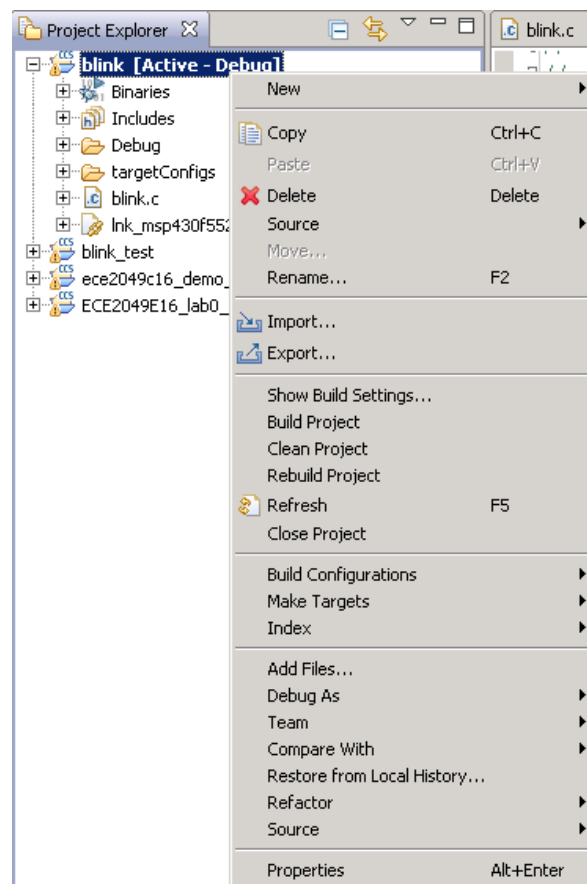

Figure 4: Project configuration menu
11. Now we need to add our .c file to the project. Right-click on the name of your project to open the context menu shown in Figure 4. This is a very useful menu—it contains functionality for performing operations specific to your project. To add blink.c, select **Add Files** from the menu and browse to the file you downloaded. When prompted, select “Copy Files” to copy the new file into your project. You should now see blink.c listed in the tree of files for your project. If the file does not open in your editor window, double-click on the file in the Project Explorer and it should open.